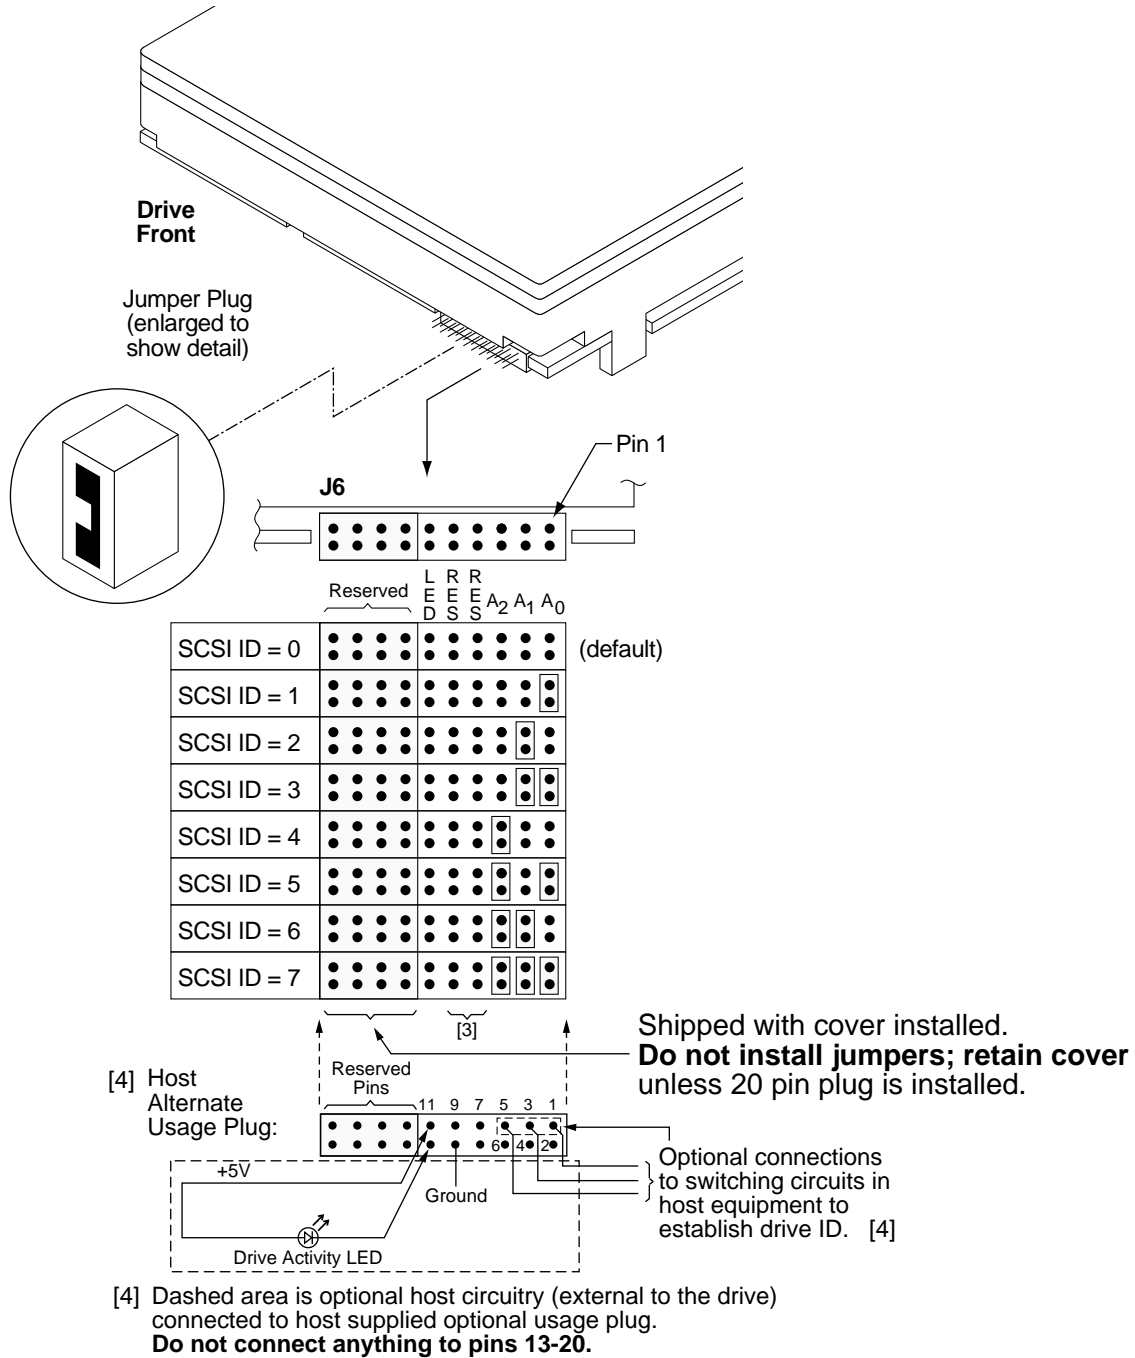
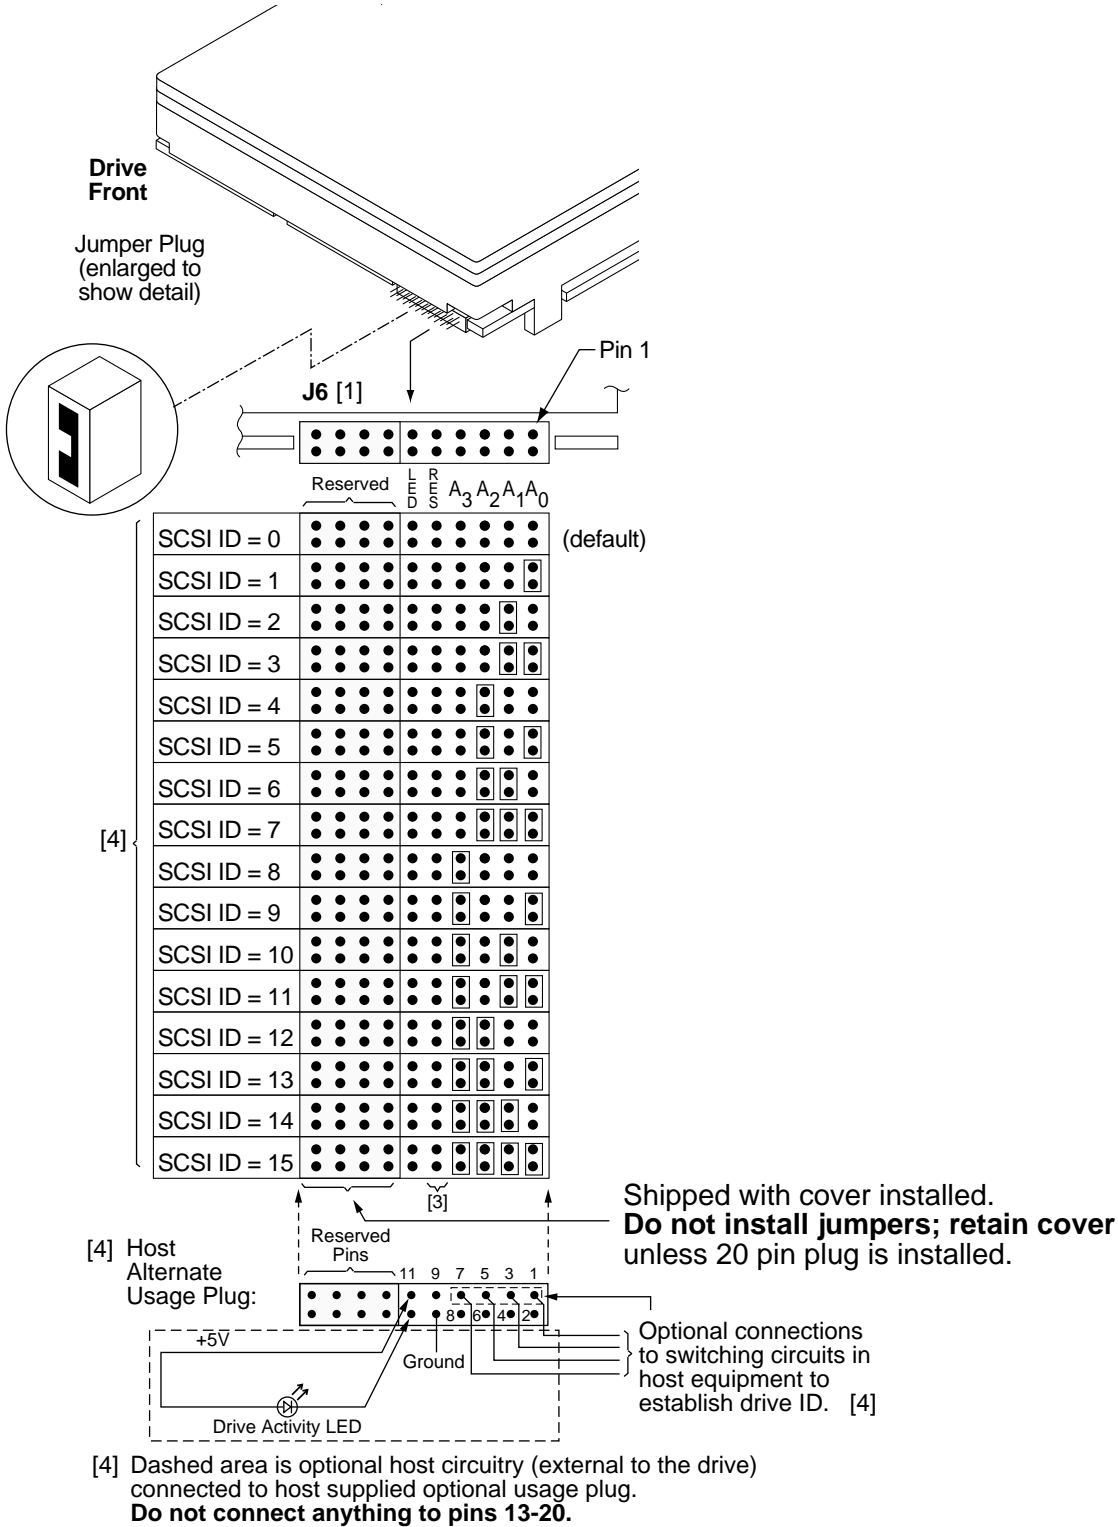
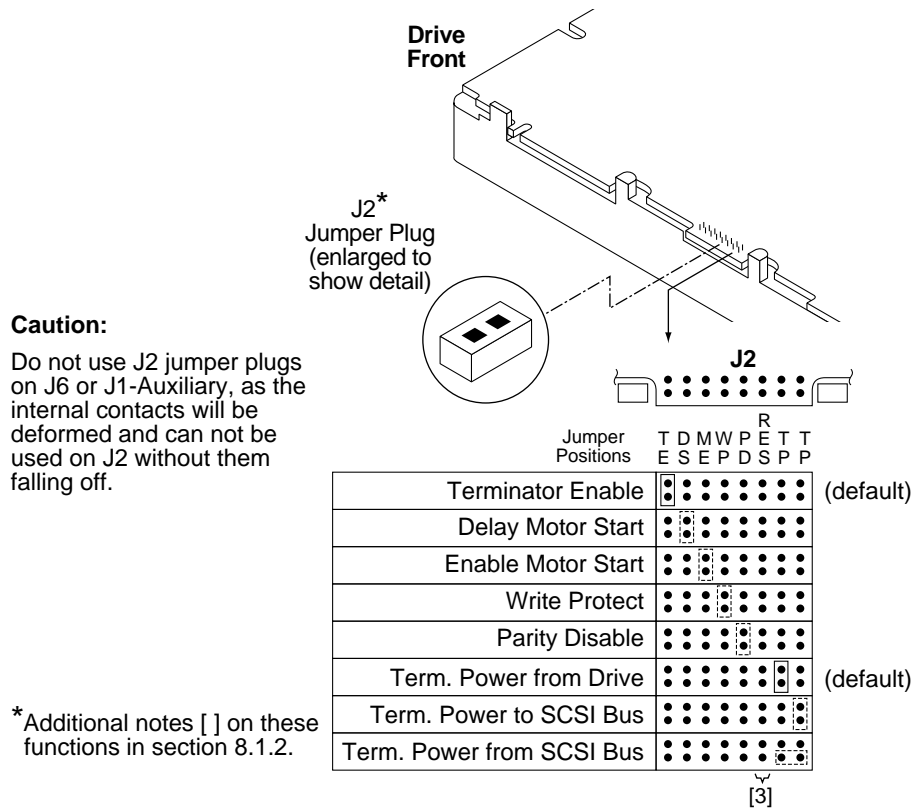

Figure 7a. Hawk 2XL family drive ID select header for model "N"
Figure 7b. Hawk 2XL family drive ID select for models “W” and “WC”
Figure 7d. Hawk 2XL family drive option select header for models “N” and “W”
For option jumper locations and definitions refer to Figures 7a, b, c and d. Drive default mode parameters are not normally needed for installation. Refer to Section 9.3.2 for default mode parameters if they are needed.
Figures 7a through 7c show views of the drive ID select jumper connectors. Figure 7d shows the option select jumper connector for all models. Figure 7b shows a rear view of model drives for the purpose of showing J1-auxiliary which has a duplicate pin configuration and purpose of J6 (Figure 7a) on the rear of the drive. Both J1-auxiliary and J6 have pins for selecting drive ID and for connecting the remote LED cable. Only one or the other should be used, although using both at the same time would not damage the drive. The notes following the figures describe the functions of the various jumper positions on the connectors J2, J1-Auxiliary and J6. Suggested part numbers for the jumpers used on J2 is Molex 52747-0211 (Seagate P/N 77679052). A bag with the two jumper plug types is shipped with the standard OEM drives.
[] Notes for Figures 7a through 7c are in Section 8.1.1.
8.1.1 Notes for Figures 7a, 7b, 7c, 7d and 7e.
Notes for Figures 7d and 7e